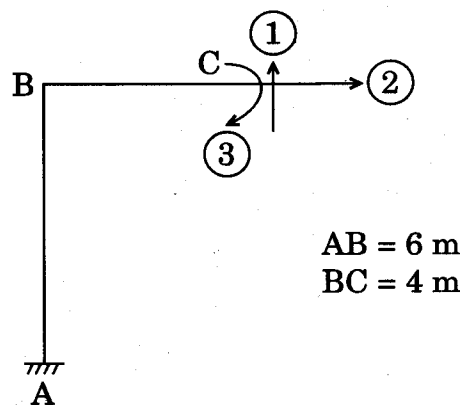

Figure 5
- Q3. (a) Develop the flexibility matrix for the beam shown in Figure 5, with respect to the generalized coordinates mentioned. EI is constant for all members.